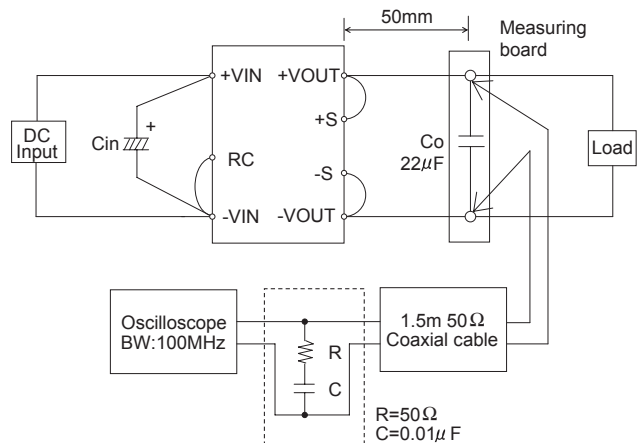

Fig.3.3 Measuring method of Ripple and Ripple Noise
- Ripple and Ripple Noise are measured, as shown in the Fig.3.3. C_{in} is shown in Table 2.1.